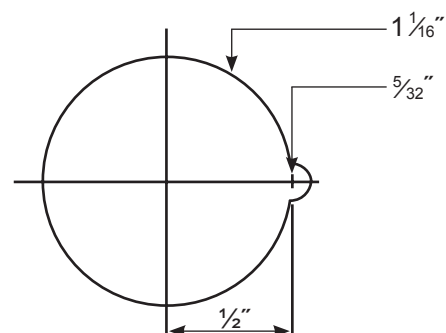

Figure 4 - Hole Sizes
- 4 Use a $\frac{5}{32}$ " drill bit and drill out the notch (Figure 4).